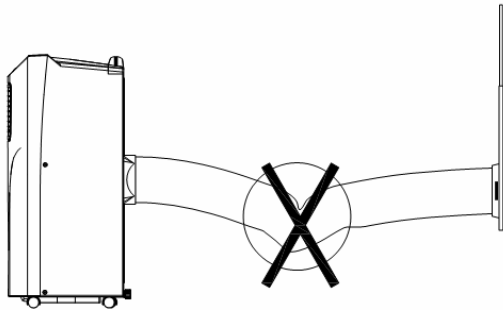

FIGURE 2
- Put slide bar connector into adjustable slide bar, adjust window open width in order slide bar match window well, and the length of slide bar is adjustable. (figure 2)
- Avoid sharp bends in the exhaust-pipe (figure 2)